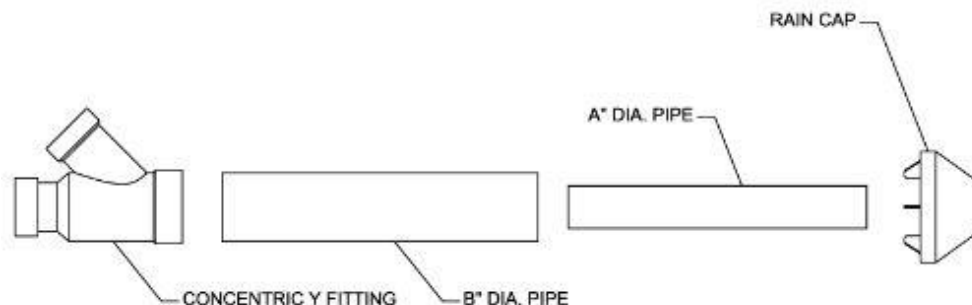

Figure 21 – 3" & 4" Concentric Vent Kits Part Identification
- a. Cement concentric Y fitting to larger diameter pipe (see Figure 21).
8. Cement heater combustion-air and vent pipes to concentric Y fitting assembly (Figure 21). See Figure 23 for proper pipe attachment.
- a. Cement concentric Y fitting to larger diameter kit pipe (see Figure 21).